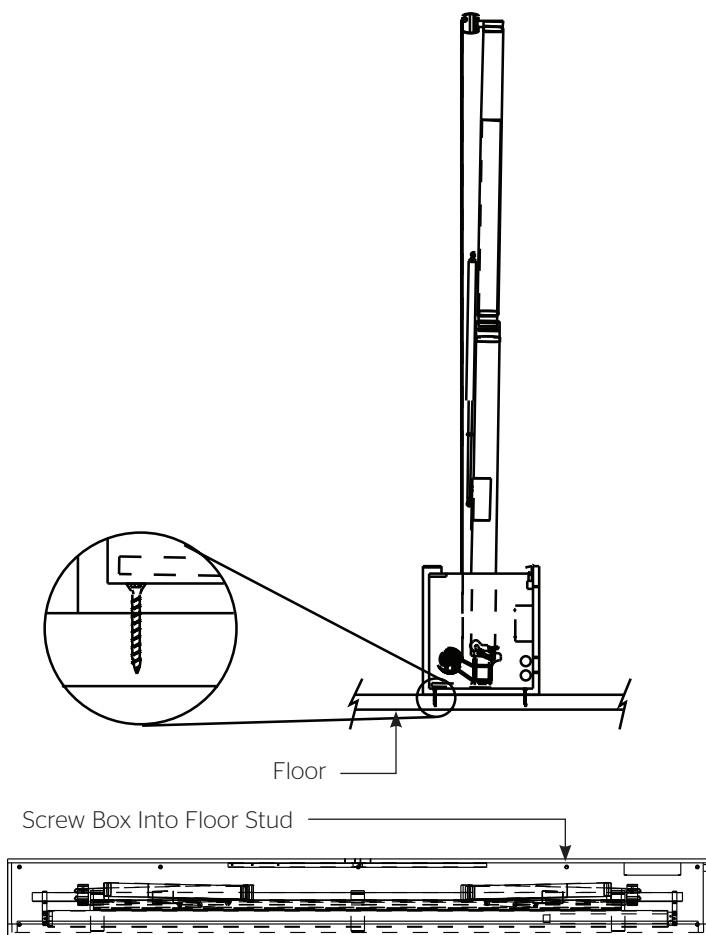

Figure 1
1. For installations where the Ascender will be set on the floor, the box must be secured to floor in at least six places (recommended hardware is #12 x 2" L wood screws)(Figure 1).